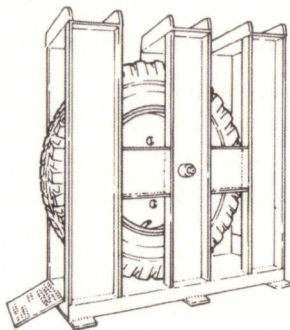
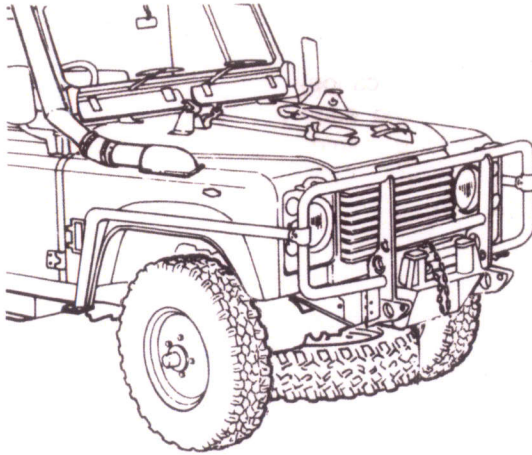

Figure 2-8 Tyre inflation — safety cage
Figure 2-9 Tyre inflation — beneath vehicle
- m. Place the wheel assembly in a cage (see Fig. 2-8), or place the wheel beneath a vehicle (see Fig. 2-9) and partially inflate the tyre.